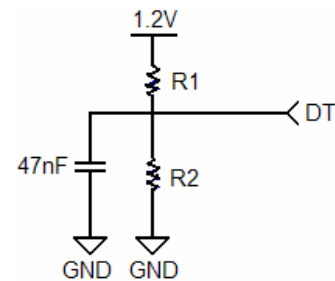
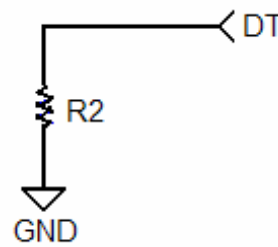

FIGURE 27A.
FIGURE 27B.
The QLx4300-S45 is capable of maintaining periods of line silence on any of its four channels by monitoring each channel for loss of signal (LOS) conditions and subsequently muting the outputs of a respective channel when such a condition is detected. A reference current applied to the detection threshold (DT) pin is used to set the LOS threshold of the internal signal detection circuitry. Current control on the DT pin is done via one or two external resistors. Nominally, both a pull-up and pull-down resistor are tied to the DT pin (Figure 27A), but if adequate control of the supply voltage is maintained to within  $\pm 3\%$  of 1.2V, then a simple pull down resistor is adequate (as in Figure 27B). Resistors used should be at least 1/16W, with  $\pm 1\%$  precision.
The internal bias point of the DT pin, nominally 1.05V, is used in conjunction with the voltage divider (R1 and R2) shown in Figure 27A to set the reference current on the DT pin.
For channels exhibiting more than 25dB of total loss (this includes cable or FR-4 loss) the DT pin should be configured for a reference sink current (coming out of the DT pin) of approximately  $2\mu A$ . A typical configuration for a  $2\mu A$  sink current is given in Figure 27C. If the configuration in Figure 27B is utilized, a  $525k\Omega$  resistor is used.